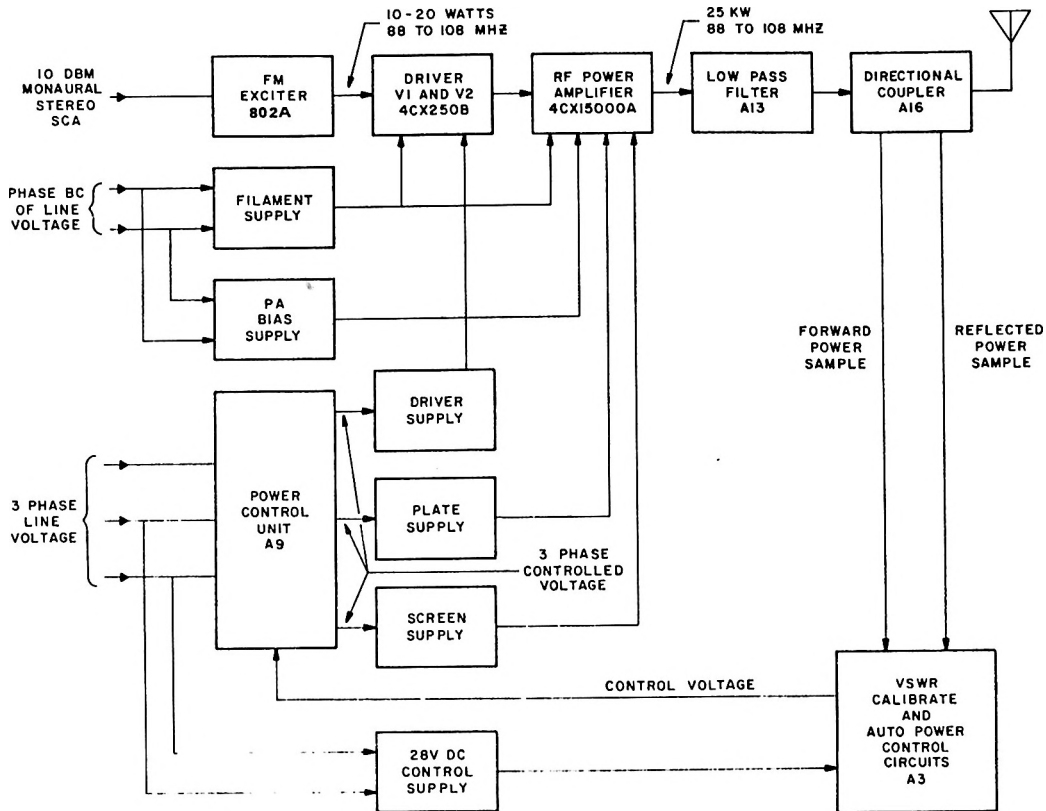

Figure 4-1. FM TRANSMITTER, 816R,
- \* Refer to figure 4-1. A 10-dBm input signal (monaural, stereo, or SCA) modulates the exciter. The output of the exciter is 0-50 watts, which is applied to the driver stage. The output of the driver is applied to the power amplifier. The power amplifier output is applied via a low-pass filter and directional coupler to a 50-ohm antenna.